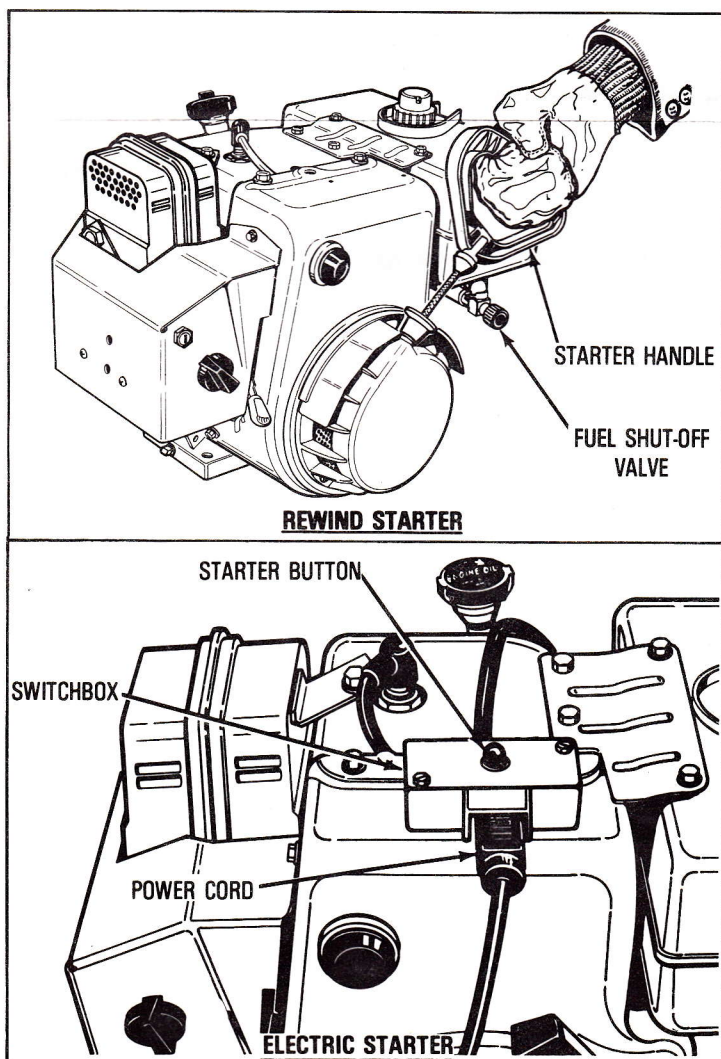

Figure 4
- ① **COLD ENGINE START** (Engine has not been run recently). Proceed with the following Instruction A. REWIND STARTER or B. ELECTRIC STARTER depending on type of starter.
A. REWIND STARTER (see Figures 4 & 5)
A. Grasp STARTER HANDLE (see Figure 4) and pull rope out, slowly, until it pulls slightly harder. Let rope rewind slowly.
B. ELECTRIC STARTER — 120 VOLT AC (see Figures 4 and 5)
3. Connect POWER CORD to SWITCHBOX. (see Figure 4).
A. Push STARTER BUTTON (see Figure 4) to engage starter motor and crank engine.
A. REWIND STARTER: (see Figures 4 & 5)
- A. Grasp STARTER HANDLE (see Figure 4) and pull rope out, slowly, until it pulls slightly harder. Let rope rewind slowly.
B. ELECTRIC STARTER — 120 VOLT AC (see Figures 4 & 5)
- A. Push STARTER BUTTON (see Figure 4) to engage starter motor and crank engine until engine starts.